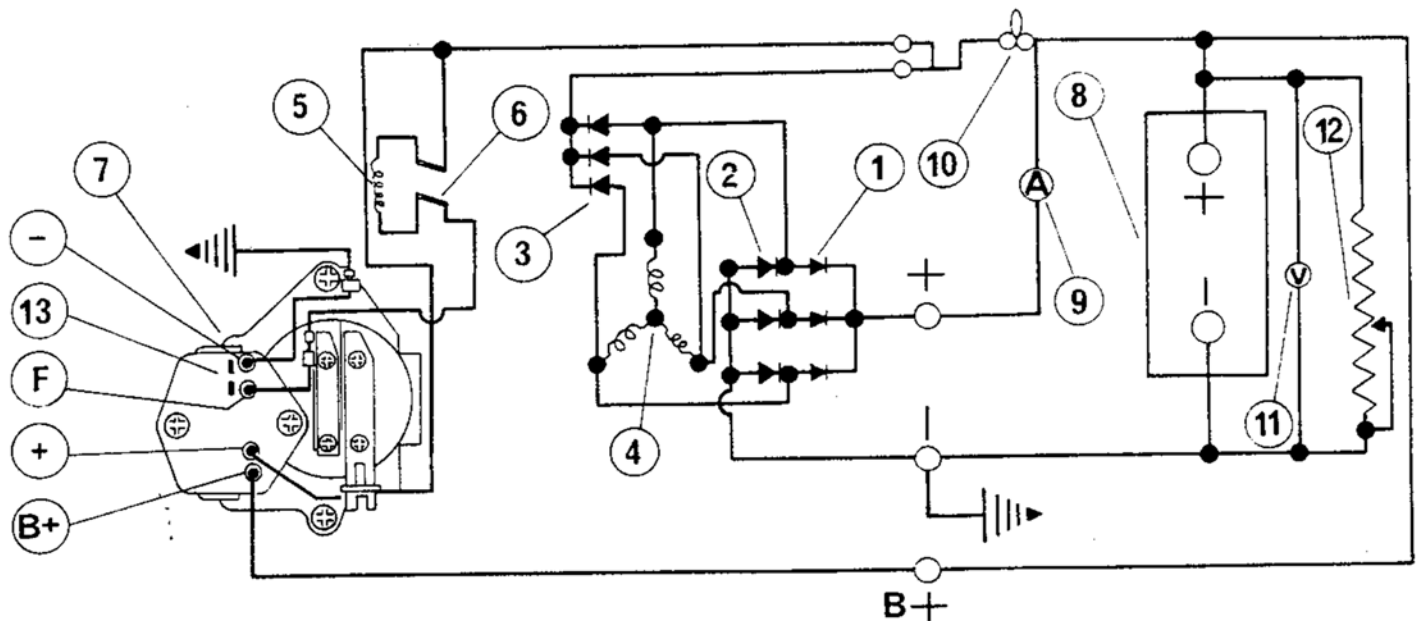

Figure 8 Alternator output test circuit
2. Connect an exterior test circuit as shown in **Figure 8**. Observe carefully the polarity of the battery and alternator terminals.